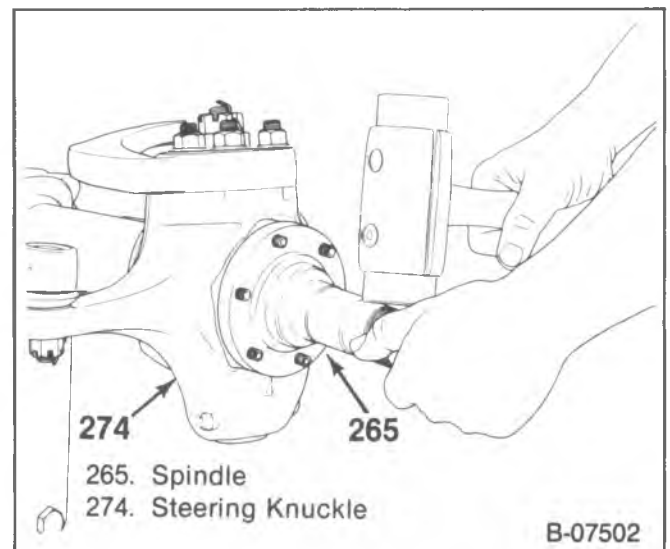

Figure 48—Removing the Spindle
2. Spindle (265) from the steering knuckle (274).
- Nuts (261) and plate (263) for V10/1500-20/2500 models.
- Nuts (261), washers (262), plate (263) and the bracket (264) for V30/3500 models.
- Tap the end of the spindle with a plastic or rubber mallet to break it loose from the steering knuckle (274) (figure 48).
- Nut (292) to 40 N·m (30 ft. lbs.).
3. Torque the adjusting ring (300).
- Use J-23447 (figure 48).